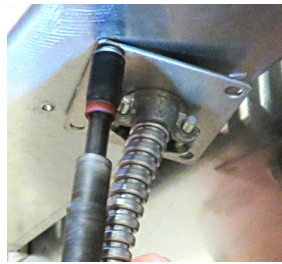

Figure 5
7. Attach the conduit plate to the bottom of the basket lift assembly using four (4) supplied screws (see Figure 5).